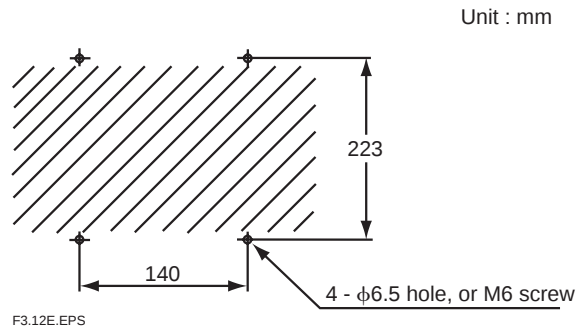

Figure 3.12 Mounting holes
- (1) Make a hole in the wall as illustrated in Figure 3.12.